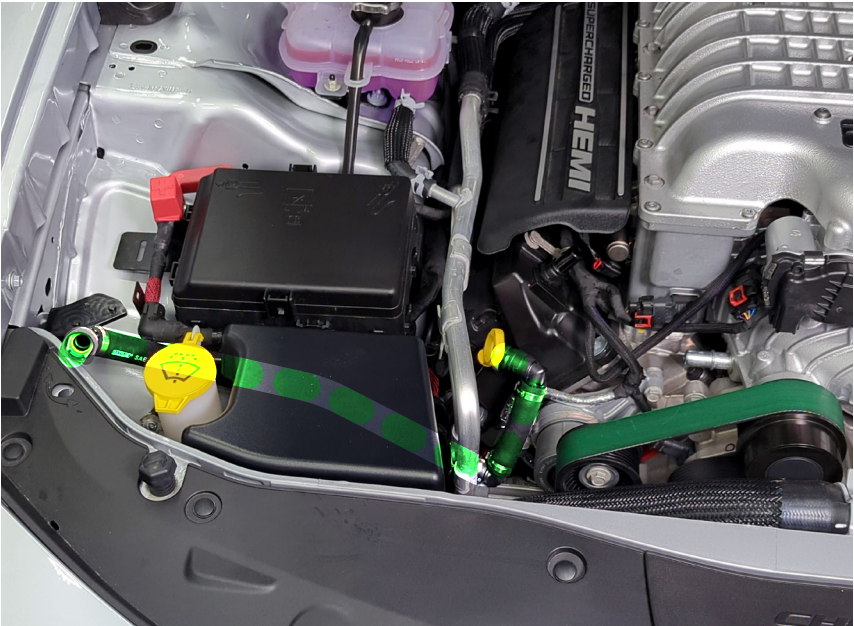

Figure 5 - Inlet Hose Routing: Leave Disconnected
2. Route the 45° fitting on the inlet hose between the two black boxes in the engine bay shown in Figure 5.